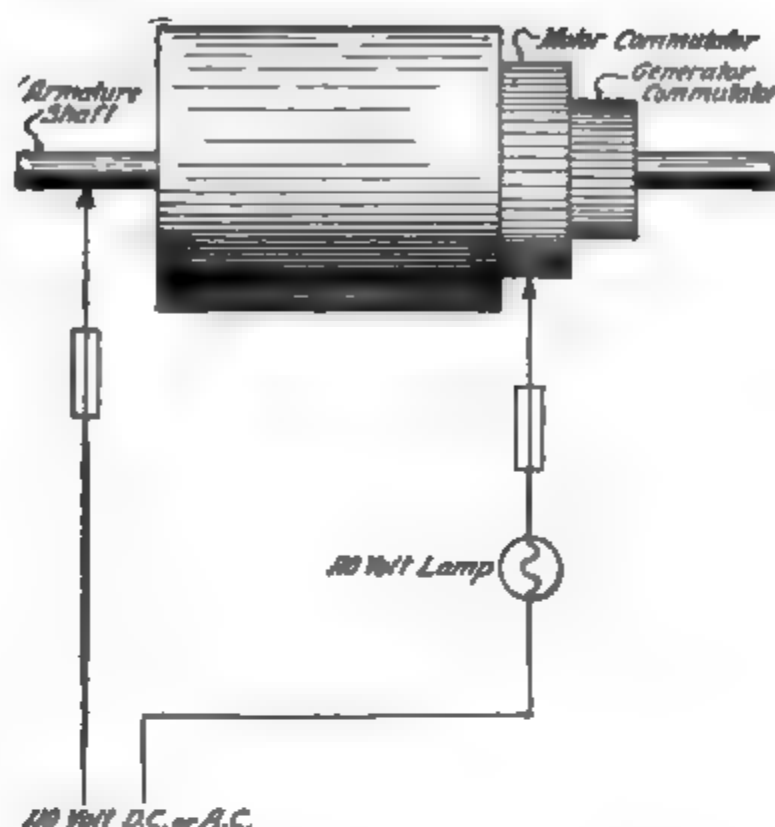

Fig. 264. Diagram for Locating Grounded Motor Coil with Lamp-Testing Set
**Grounded Motor Coil.** According to the nature of the fault, a grounded motor coil may either prevent operation of the starting altogether or it result only in an excessive consumption of current for starting. The test is carried out in the same manner as described for the generator, except that the second point of the test set is placed on the motor commutator, Fig. 264. It will likewise be evident that an induction starting motor tested in the same
*To test for grounds in a field*, after having removed all ground connections, as mentioned in a previous paragraph, place one end, or point, on a terminal of the field coil and the other on the frame of the machine. The method of making the test is identical with that shown in Fig. 270, except for the substitution of the voltmeter for the 110-volt light circuit. If the coil is free from grounds, the voltmeter needle will remain at zero; in case, there is a ground, there will be an indication on the instrument and the worse the ground the greater the value of this reading will be. This test corresponds to that illustrated in Fig. 264.